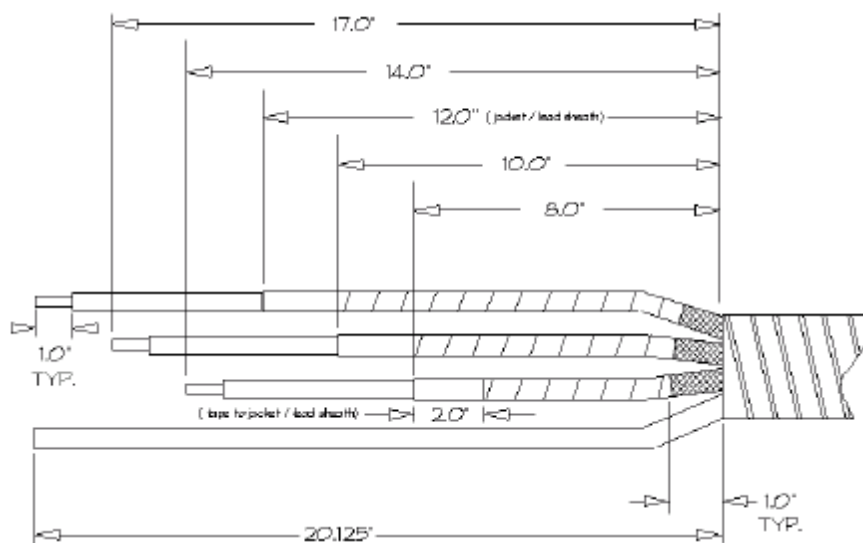

Figure 5-31: Cable preparation for cables with injection tubes
1. Prepare the end on the first length of cable to be spliced. Remove 20.125 in (51 cm) of armor. (All of the conductors will extend 5 in (13 cm) more from the armor than on a typical cable splice.) The end of the tube should be the same length as the longest conductor. The conductor next to the tube should be the shortest of the three conductors. Trim the conductors to the lengths shown in Figure 5-31.
3. Prepare one end on the other cable. The conductors on the second cable should be cut so they butt against the “mirrored” conductors. The injection tubing of the second cable should be on the same sides as the tubing of the first cable and overlap the tube on the first cable by approximately 6 in (15.3 cm). Remove the insulation, jacket and braid to the dimensions shown in Figure 5-31.